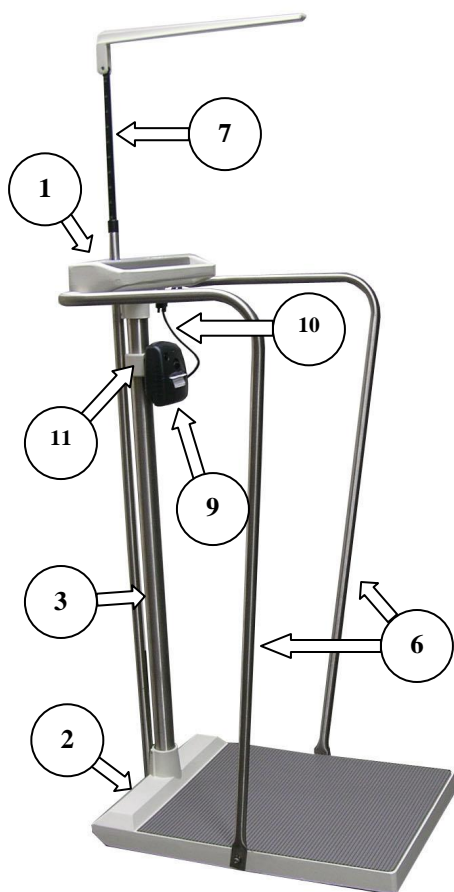

Figure 4: Handrail/Height Bar Diagram
STEP 1: (Figure 4) Attach top of each of the Handrails (6) to the bottom right and left of the Display Unit (1). Use two (2) screws and two (2) split-lock washers on each side; slightly tighten. (Do not tighten all of the way.)
STEP 2: Attach the bottom of the Handrails to the right and left side of the Base Assembly (2) using one (1) screw and one (1) split-lock washer for each handrail. Tighten all six (6) screws securely.
STEP 1: (Figure 4) Remove the set screw on the back of the Display Unit (1) and in the Base Assembly (2).
STEP 2: Slide the Height Bar (7) down through the hole in the Display Unit and seat firmly into the Base Assembly. Apply a small amount of Loctite® to the two (2) set screws and reinstall, tightening securely.
STEP 1: (Figure 4) Slide the Printer Mounting Collar (11) over the Mast (3). Position the Printer Mounting Collar approximately 5 inches from the top of the mast. Tighten the two (2) set screws to secure the Printer Mounting Collar to the Mast. **NOTE:** The three (3) holes on the Printer Mounting Collar should be towards the top of the Mast (Figure 5).